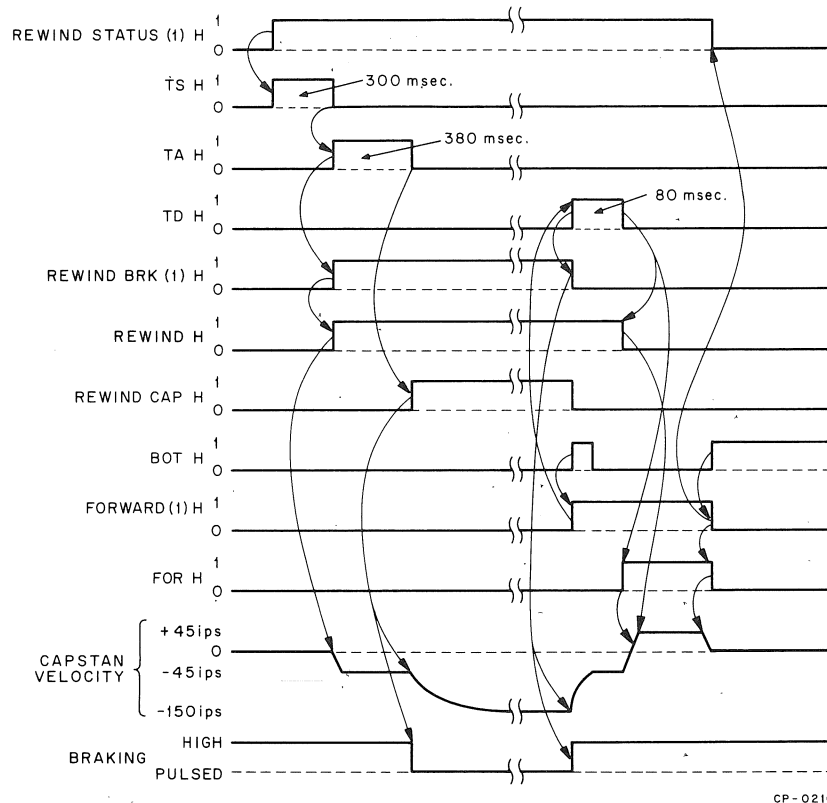

Figure 4-6 Rewind Sequence Timing
4.1.3.5 Rewind Control — Due to the limited rate at which the reels can be accelerated and decelerated, a special sequence of control signals must be generated to perform a high-speed rewind operation. The sequence is shown in Figure 4-6.